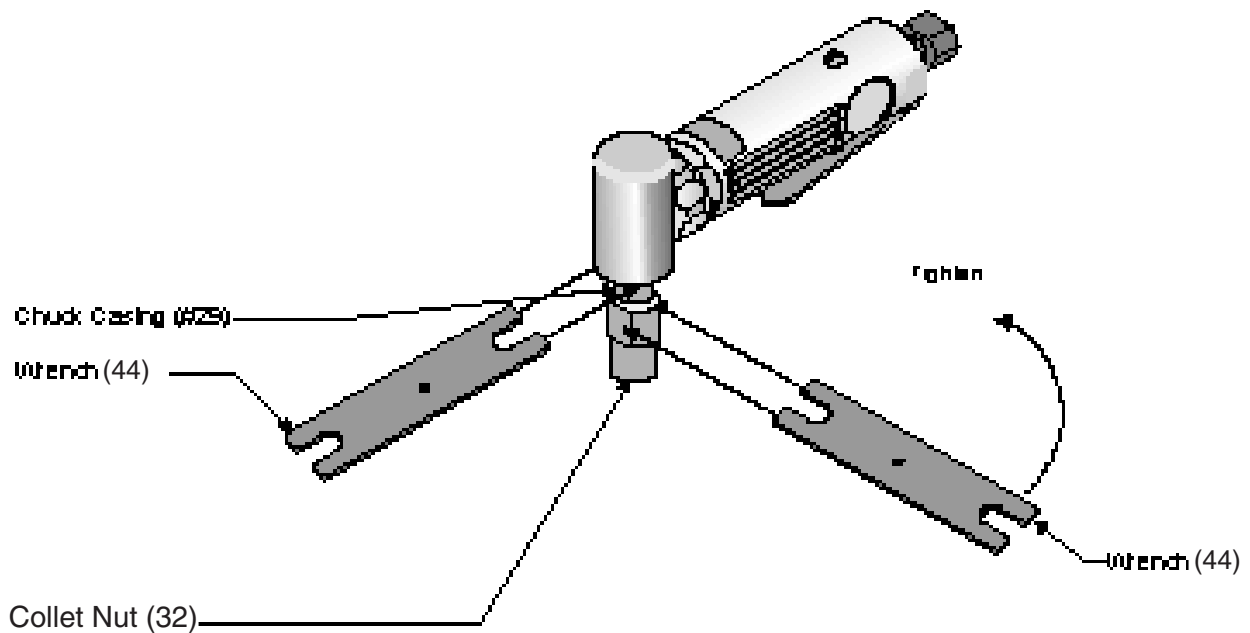

Figure 4 — Tightening the Collet Nut
7. Place the large end of WRENCH (44) on the flats of the COLLET NUT and tighten as shown in Figure 4.